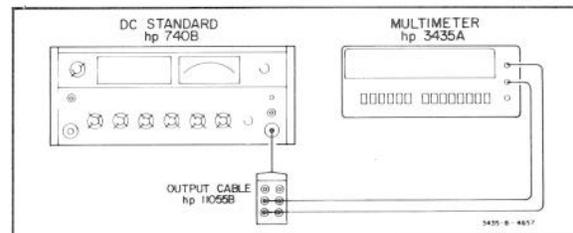

Figure 5-8. DC Gain Adjustment.
c. Connect the 740B output to the Multimeter input as shown in Figure 5-8.